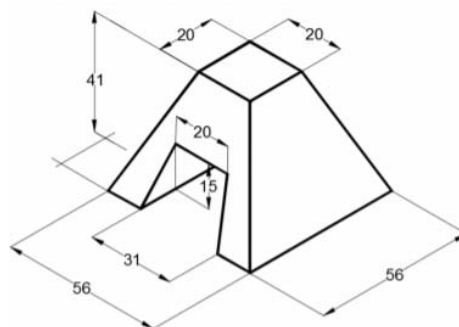

Fig. 6.3
4. Solid creation using Loft. Fig. 6.3.